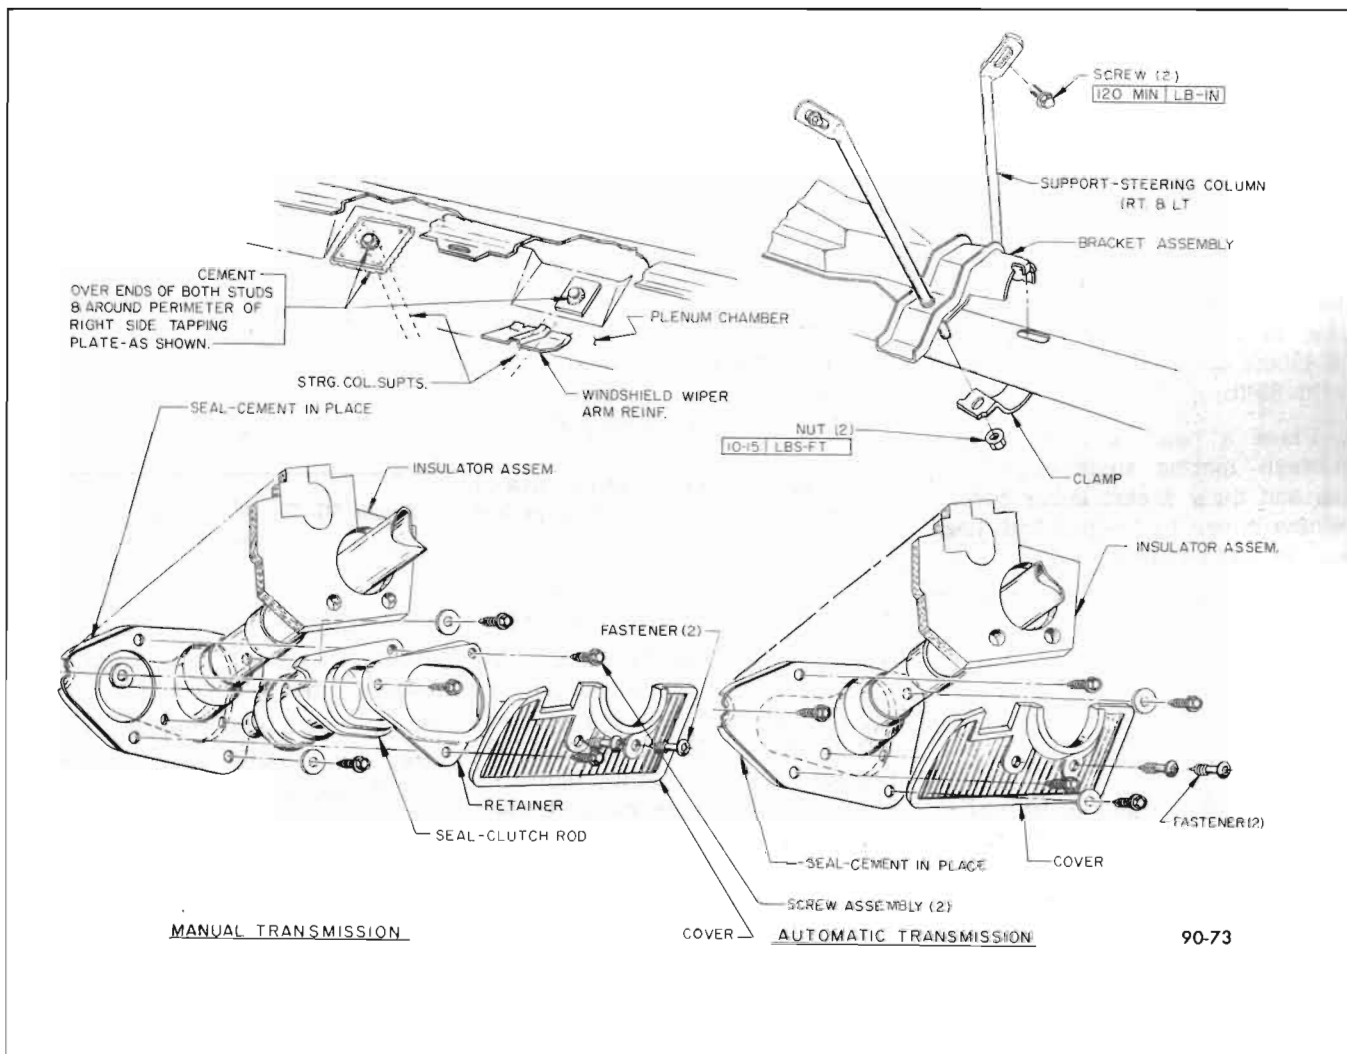

Figure 90-73—Mast Jacket Installation (43-44000 Series)
4. On 43-44000 series remove screws that retain trim cover to toe pan. See Figure 90-73.
NOTE: When installing 43000-44000 and Gran Sport mast jacket be sure to align tab on bracket with slot in mast jacket (see Figure 90-73).
9. Install plastic trim cover and secure in position with two fastener pins. Drive pins in place with suitable dowel. See Figure 90-73.